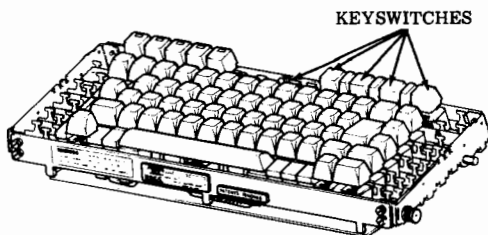

Fig. 12—Keyswitch Identification
- Remove the INTERLOCK, PRINTER TEST, PARITY, DUPLEX and CPS keyswitches (Fig. 12).